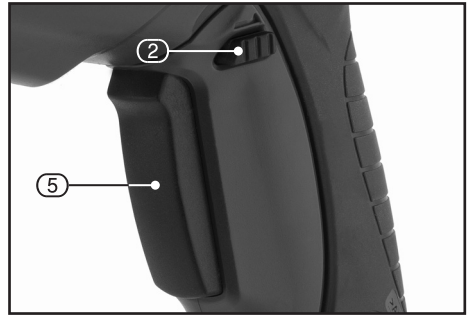

FIG.3
9.1 FORWARD AND REVERSE ROTATIONAL DRIVE – FIG. 3